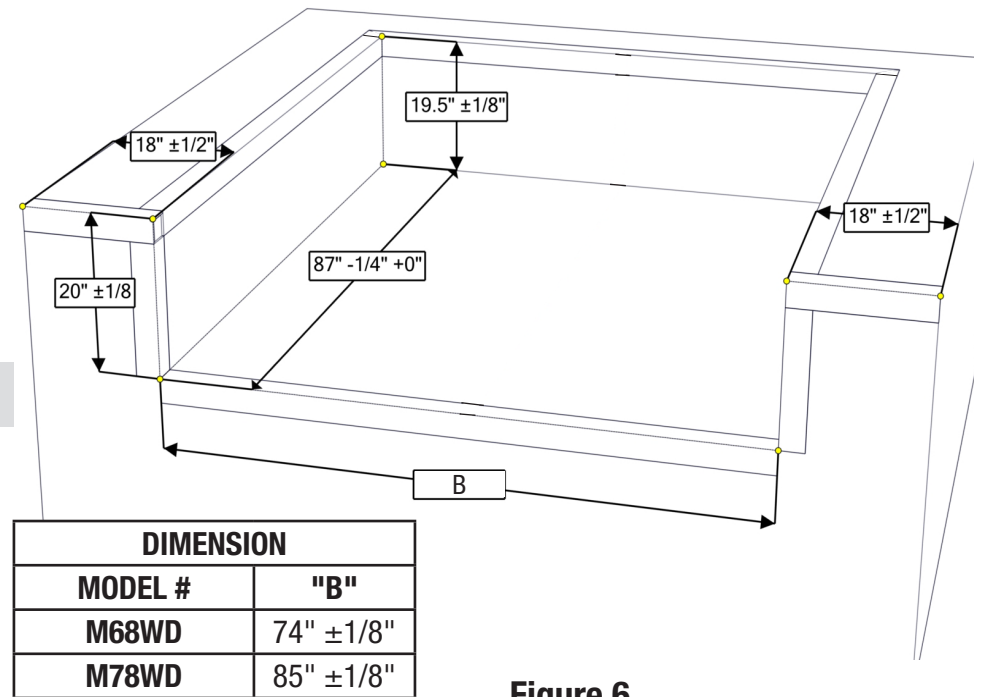

Figure 6
4. Check size, squareness, and plumbness of the pit. Be sure the pit conforms to the dimensions shown in **Figure 6**.